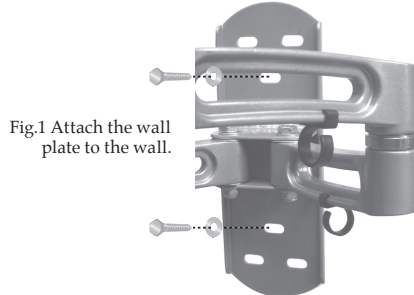

Fig.1 Attach the wall plate to the wall.
5. Place the mount back against the wall and secure it using the Lag Bolts (Q) and Lag Bolt Washers (R) provided (see Fig. 1). Do not over-tighten these bolts and do not release the mount until all bolts are in place
4. Insert a Concrete Anchor (P) into each hole so that it is flush with the concrete surface. A hammer can be used to lightly tap the anchors into place if necessary.
5. Place the mount back against the wall and secure it using the Lag Bolts (Q) and Lag Bolt Washers (R) provided (see Fig. 1). Do not over-tighten these bolts and do not release the mount until all bolts are in place.